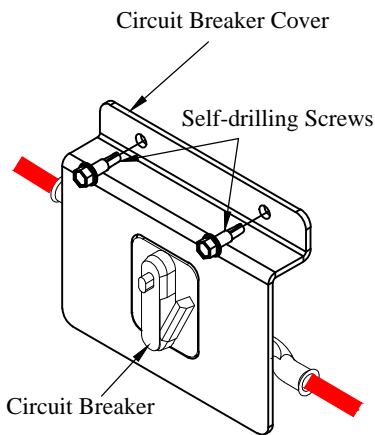

Figure 12: Circuit breaker cover.
14. **Attach** the circuit breaker cover using the supplied self-drilling screws (Figure 12).